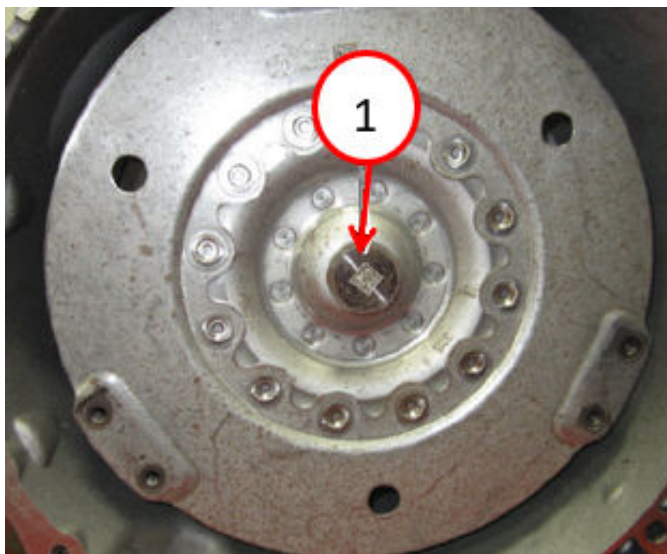

Fig. 55
85. Install the torque converter Fig. 55 (Refer to 21 - Transmission and Transfer Case/Automatic/Torque Converter/ Installation).